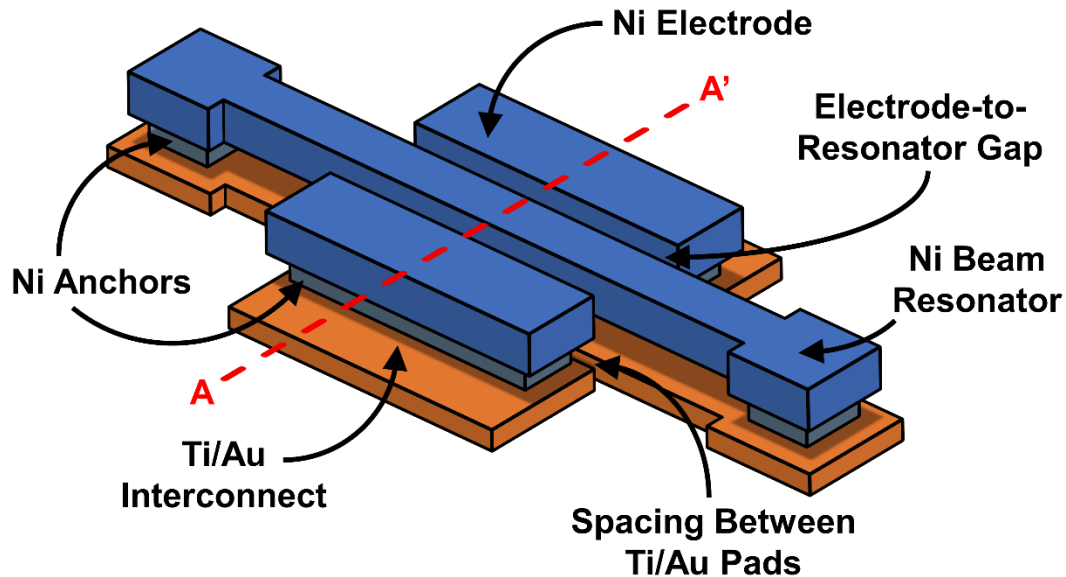

Figure PS2.4
3. Suppose you want to fabricate the structure pictured in Fig. PS2.4 below using the given fabrication process traveler.
- (c)** Draw the cross-section $A - A'$ as indicated in Figure PS2.4 *after* the following steps from the given process traveler: